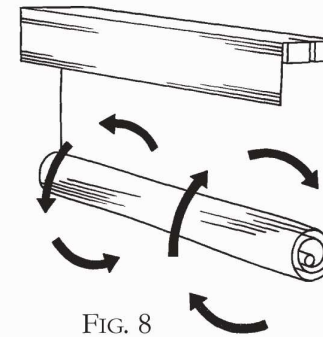

FIG. 8
- If the shade is not flat when lowered, roll the shade tightly from the bottom and then twist the roll from the ends (one end clockwise and the other counter-clockwise) to align yarn and slats. (*Fig. 8*)